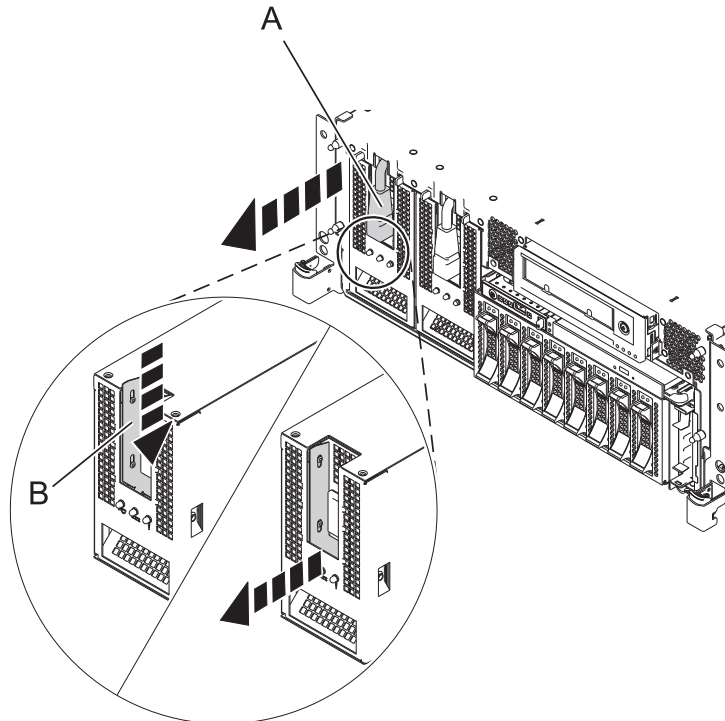

Figure 73. Removing the power supply from a rack-mounted model
7. Disconnect the power cable (A) from the front of the power supply as shown in Figure 73.